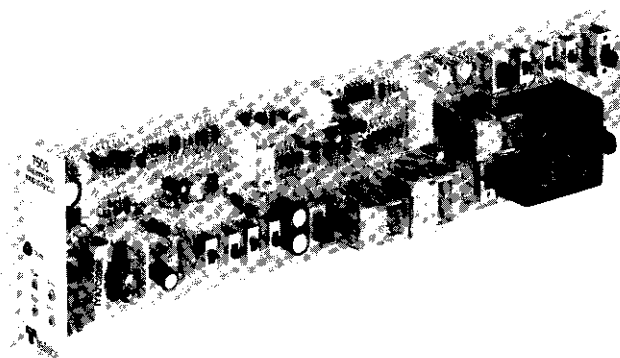

figure 1. 7503 Dial Long Line module
1.01 The 7503 Dial Long Line module (figure 1) regenerates signaling and supervision to increase the range of a **loop-start** or **ground-start** CO or PBX line circuit in applications where a station served by a metallic facility is located beyond the normal range of the switching equipment. An integral repeat coil extends a separate source of locally derived loop current toward the station. On calls to the station, the 7503 bypasses ringing generated at the switching equipment or repeats ringing (starts and applies local ringing generator), as selected by switch option. When the station answers, the 7503 trips ringing. On calls from the station, the 7503 detects and regenerates off-hook states and repeats dial pulsing. Additionally, in ground-start operation, the 7503 detects and repeats the tip-ground and ring-ground states used on ground-start circuits.